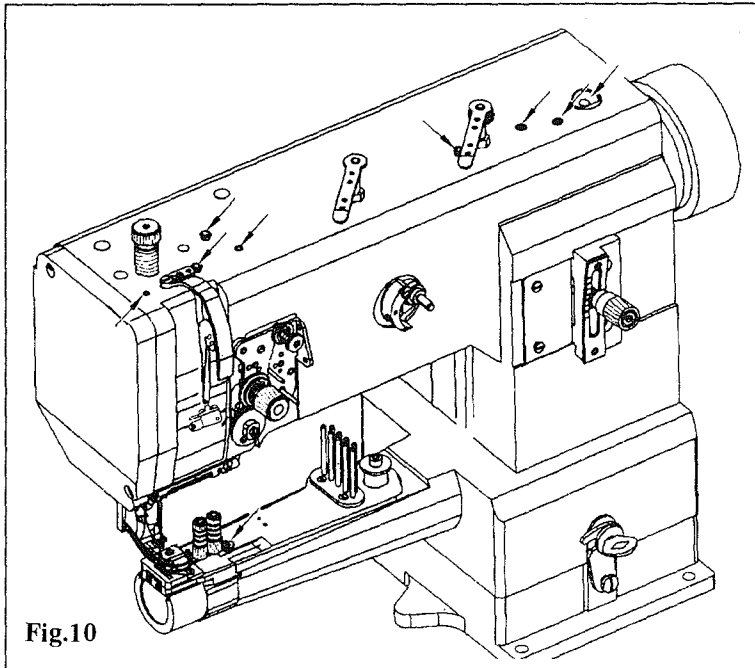
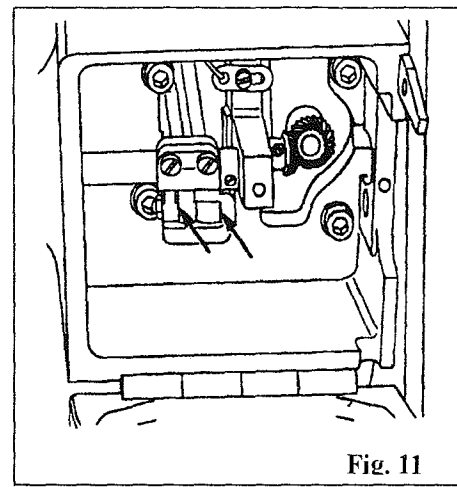

Fig.10
Fig. 11
- ① Clean the rotating hook and rotating hook area daily, more often with constant use.
- ② Bring the needle bar to its highest position and remove the free arm cap.
- ③ Take out the bobbin capsule and bobbin.
- ④ Unscrew capsule holder piece.
- ⑤ Take out screw and lift up the rotating hook handle.
- ⑥ Turn the balance wheel until point stands at the same height as rotating hook point.
- ⑦ Take out the lower capsule and clean the rotating hook path with petroleum.
- ⑧ Put it back together in reverse order of the above. Make sure that the nose on the back of the capsule holder piece meshes with groove.
- ⑨ Unscrew rotating hook handle and put in the bobbin capsule with bobbin.
- ⑩ Draw back the free arm cap.
3) GENERAL OILING (Fig.10, Fig.11)
Oil all the bearing positions shown in Fig 10 and 11 twice weekly.